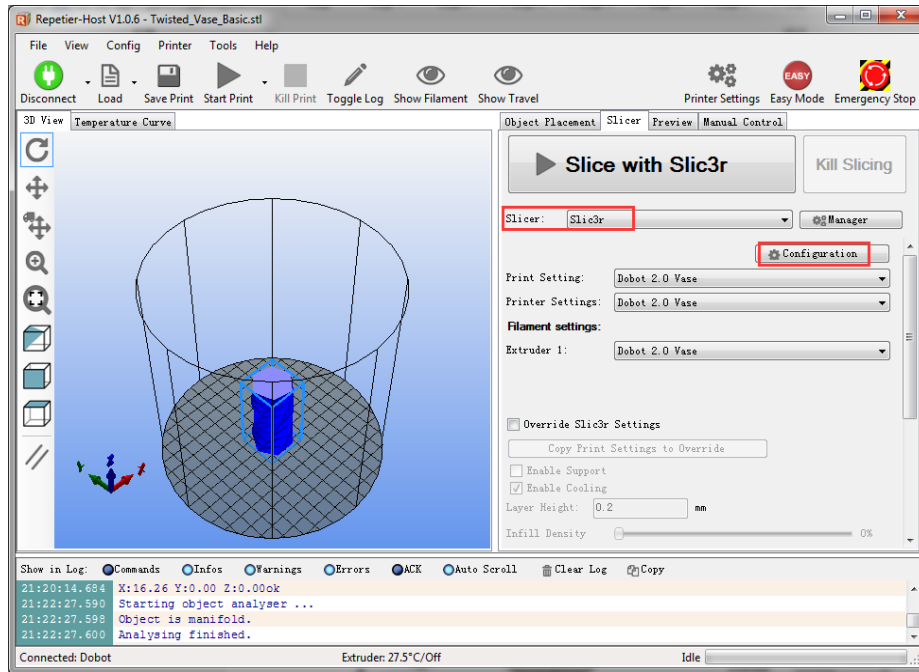

Figure 5.140 Select slicer
3. Select **Slic3r** from **Slicer** on the **Slicer** tab of the **Repetier Host** page, and click **Configuration**, as shown in Figure 5.140.